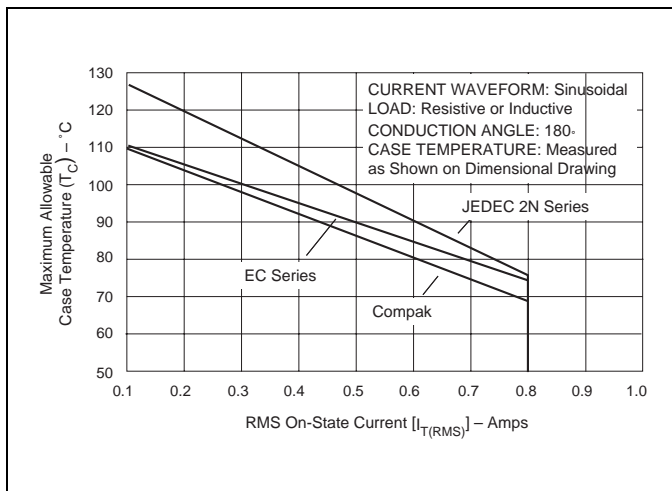
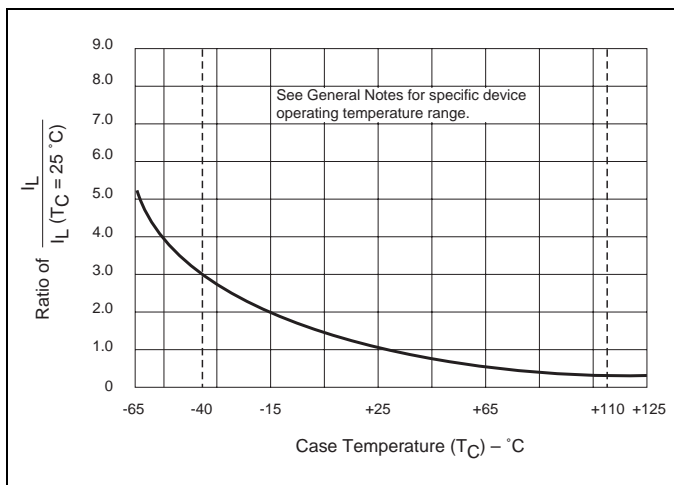

Figure E5.1 Maximum Allowable Case Temperature versus RMS On-state Current
Figure E5.18 Normalized DC Latching Current versus Case Temperature
- (1) See Figure E5.1 through Figure E5.9 for current ratings at specified operating temperatures.
- (13) See Figure E5.1 through Figure E5.9 for maximum allowable case temperature at maximum rated current.
- (14) I_{GT} = 500 μA maximum at T_C = -40 °C for T106 devices
- (15) I_H = 10 mA maximum at T_C = -65 °C for 2N5064 Series and 2N6565 Series devices
- (16) I_H = 6 mA maximum at T_C = -40 °C for T106 devices
- (17) Pulse Width ≤ 10 μs
- (18) I_{GT} = 350 μA maximum at T_C = -65 °C for 2N5064 Series and 2N6565 Series devices
- (19) Latching current can be higher than 20 mA for higher I_{GT} types. Also, latching current can be much higher at -40 °C. See Figure E5.18.
- (20) T_C or T_L = T_J for test conditions in off state
- (21) I_{DRM} and I_{RRM} = 50 μA for 2N5064 and 100 μA for 2N6565 at 125 °C
- (22) TO-92 devices specified at -65 °C instead of -40 °C
- (23) T_C = 110 °C